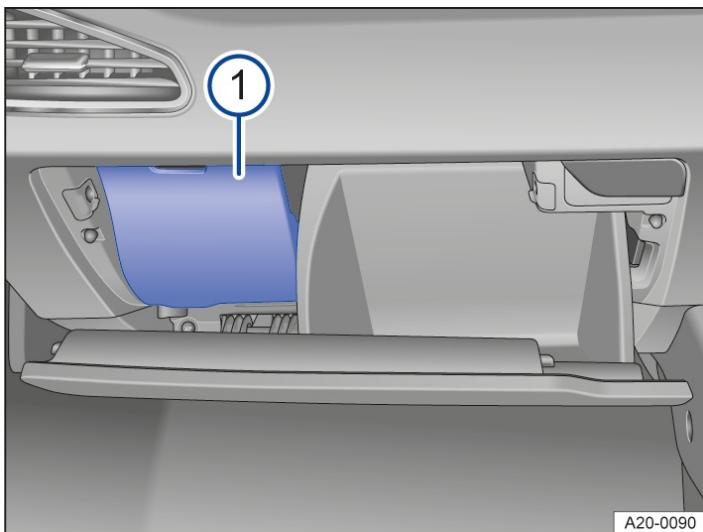

Fig. 2 Right-hand drive vehicle: fuse box cover in the dash panel on the front passenger side.
- Pull off cover from top → *Fig. 2* 1.